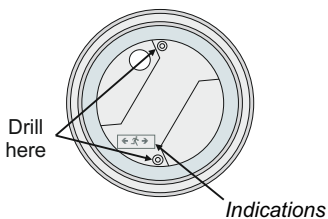

Figure 6
Step 3. Drill 2 holes on the base (Figure 6) using a 4mm drill bit in order to permit the retaining screws to pass. Mark these two drilled points on the required mounting location, drill the holes and install the supplied plastic plugs. **ATTENTION!!! Especially for the GR-280/24V/ADR luminaire installation on the ceiling you must align the base with the indications on the luminaire's base.**